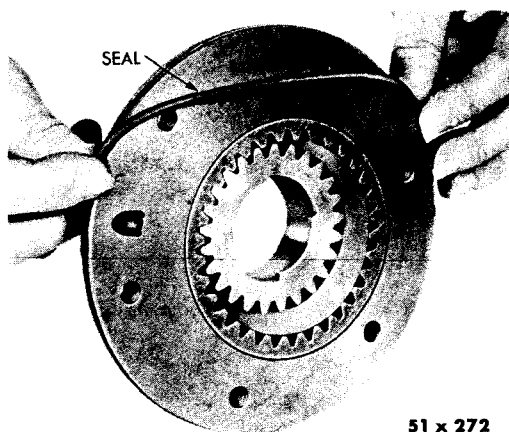

Fig. 36—Installing the Oil Pump Body Seal Ring
- (2) Install a new oil O-ring seal on the outer diameter of the Oil Pump Housing, as shown in Figure 36.
- (3) Assemble the Oil Pump pinion and gear in the Oil Pump Housing.
- (4) Install the Oil Pump pinion and gear, with the flange end up, as shown in Figure 36.
- (5) Using Tool C-3335 as a surface plate, check the clearance between the Oil Pump Body